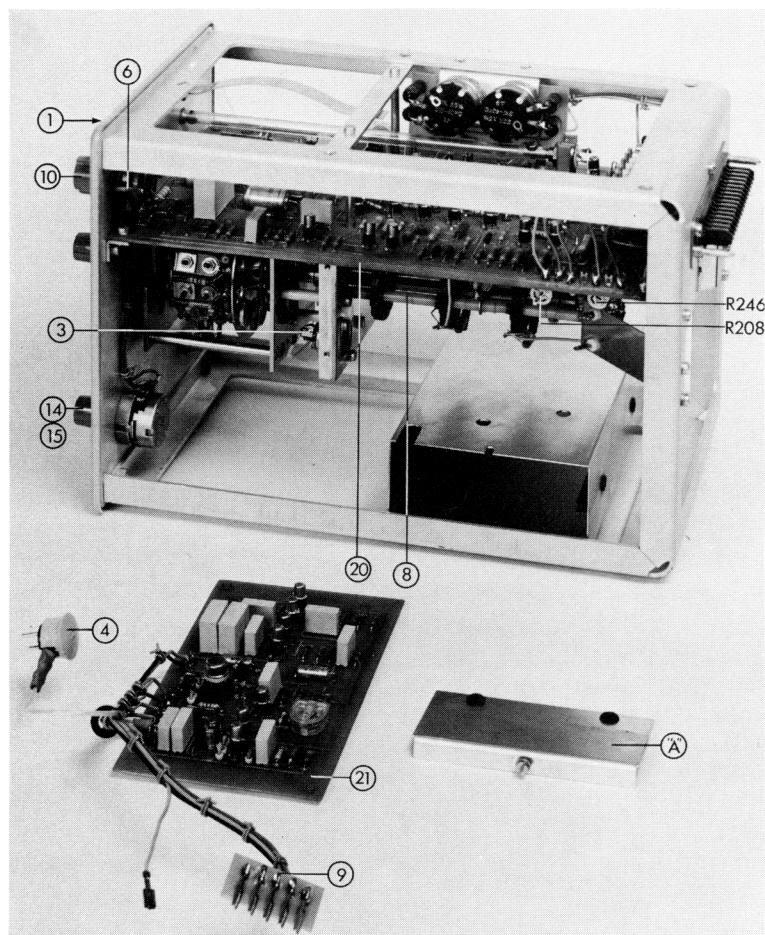
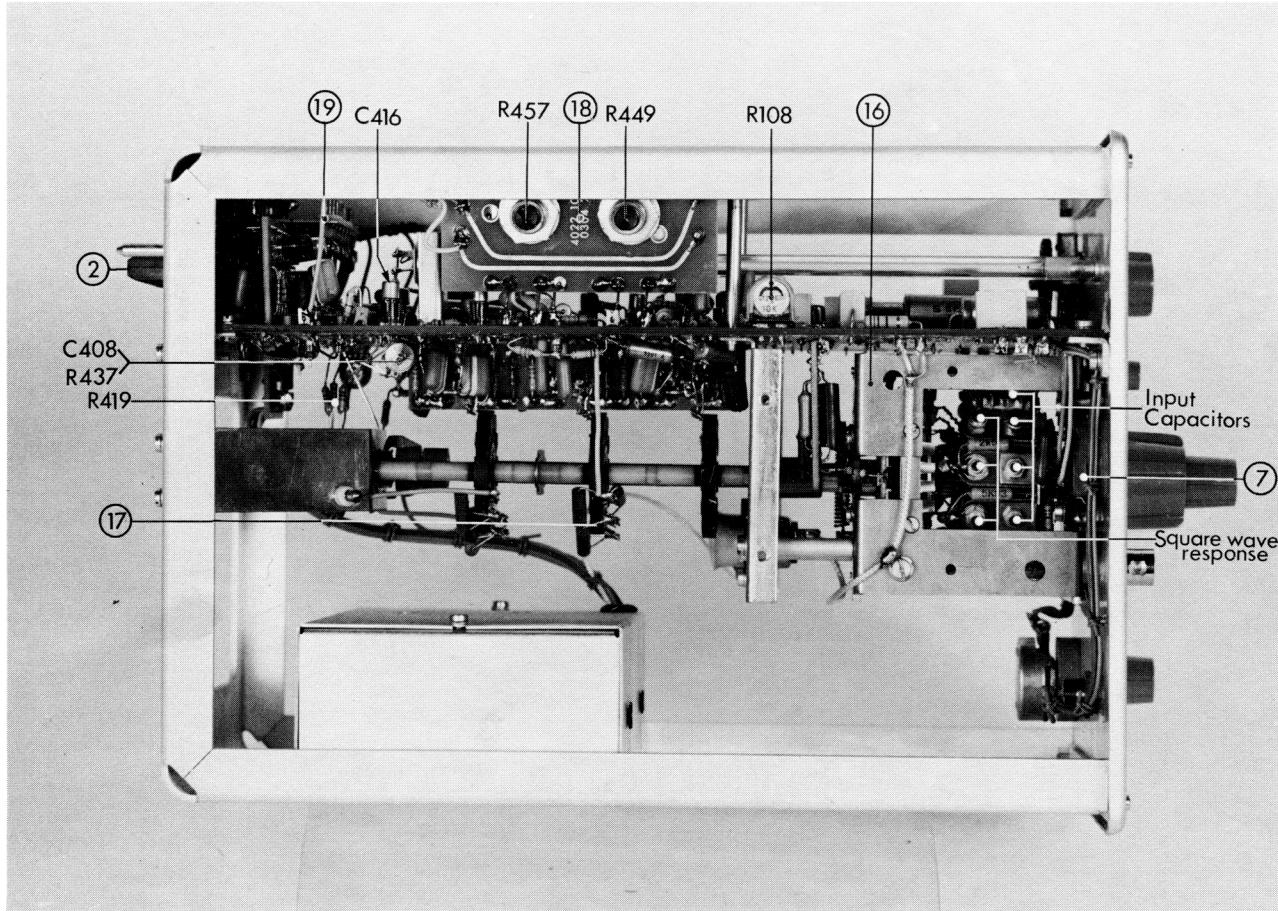

Fig. 15. Right hand side of amplifier
Fig. 16. Left hand side of amplifier
The chopper amplifier may be removed from its housing after the withdrawal of lid "A" (Fig. 15) a five-pole plug, a three-pole plug and a single-pole plug. If measurements are made while the chopper amplifier is out of its housing, adequate screening precautions should be taken to avoid hum.
R108 (Fig. 16)
R246 (Fig. 15) R449, R457 (Fig. 16)
- R208 (Fig. 15), C408, C416, R437 (Fig. 16).
- Unsolder R419 (Fig. 16) at the side of the potentiometer R2 and apply a square wave voltage with a rise time of about 1 ns via a terminated 50 Ω cable. For a 4 cm deflection the amplitude must be about 200 mV.